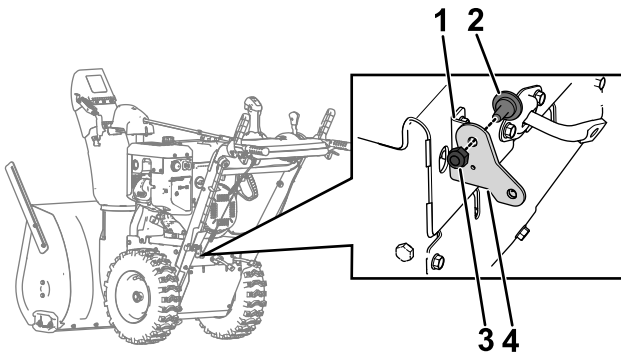

**Figure 5**
6. In the rear of the machine, unhook the traction cable from the traction-cable bracket (Figure 5).